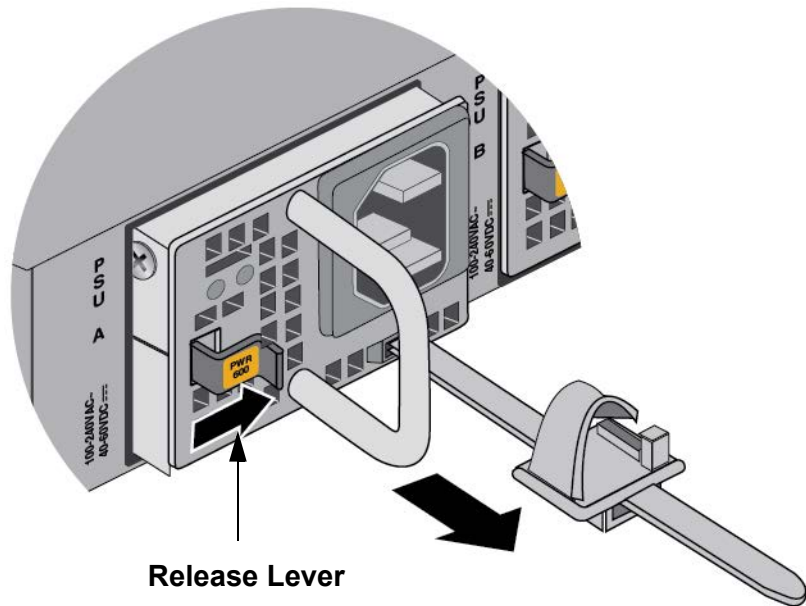

Figure 147. Removing the PWR600 Power Supply
4. Press the release lever to the right and pull on the handle to release the power supply from the internal connector in the switch. Refer to Figure 147.